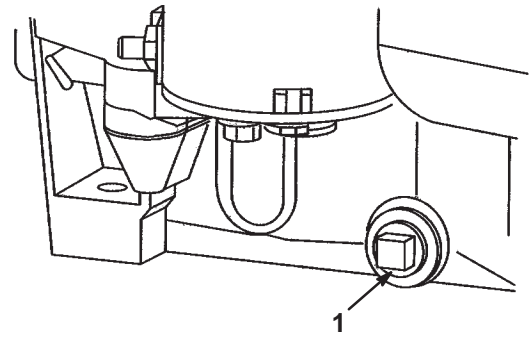

Figure 19
4. Place a pan below the oil dipstick/fill tube and remove the drain plug (Fig. 19).